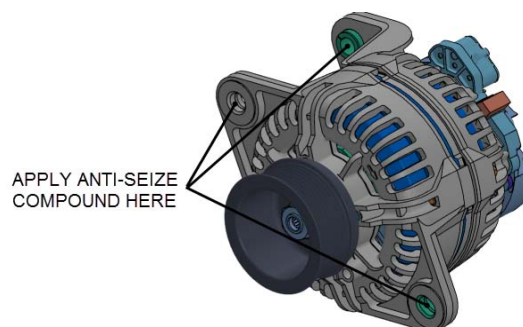
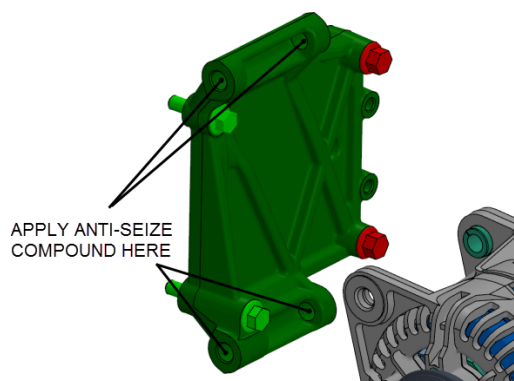

FIGURE 14
FIGURE 15
22. Apply anti-seize compound (Prevost p/n: 680335) inside the alternator mounting ears (FIGURE 14) and inside the sleeves on the alternator support (FIGURE 15).